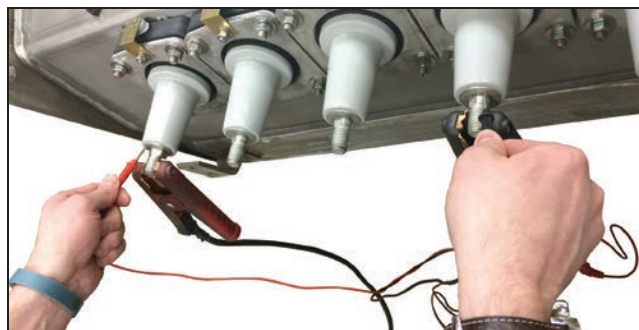

Figure 27. Connecting the resistance measuring device.●
- STEP 1.** Clamp the two current-carrying probes of the resistance-measuring device to the bushing conductors of the current-carrying path to be measured. See Figure 27. In this example the resistance is being taken between Way 1 Phase A and Way 2 Phase A